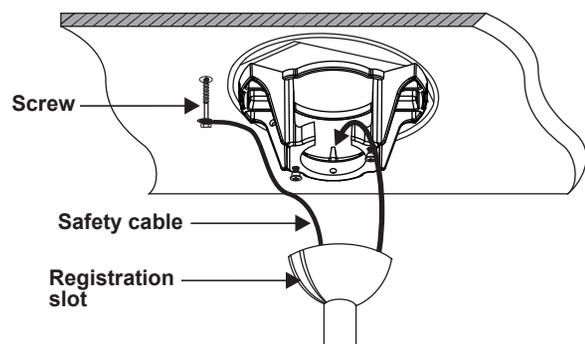

Figure 10
9. Now lift the motor assembly (fan with blades) into position and place the hanger ball into the hanger bracket. Rotate down rod until the "Check Tab" has dropped into the "Registration Slot" and the down rod and ball assembly seat firmly. The down rod and ball assembly should not rotate if this is done correctly. (Fig. 10)
10. An additional safety support is provided to prevent the fan from falling. Secure the safety cable to the ceiling joist with screw and washer. (Fig. 10)